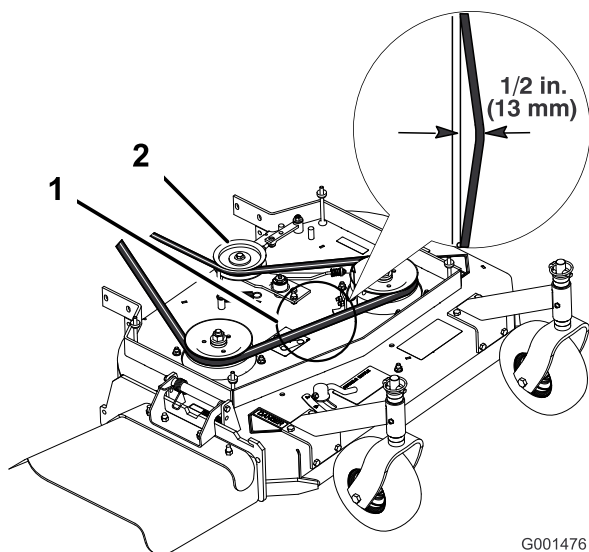
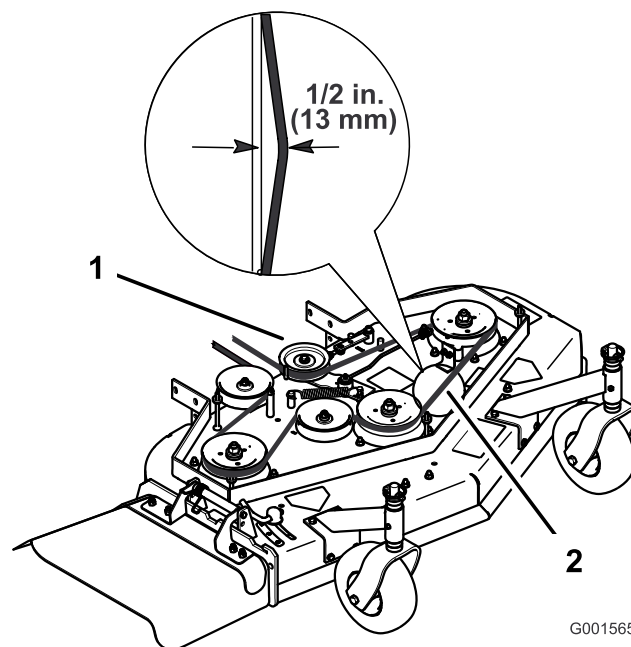

Figure 52
Figure 53
Note: The proper mower belt tension is 10–15 lbf. (44–67 N) with the belt deflected 1/2 inch (13 mm) halfway between the pulleys (Figure 52 or Figure 53).
3. Loosen the locknut on the turnbuckle (Figure 52).
4. Rotate the turnbuckle toward the rear of the mower to increase the tension on the belt. Rotate the turnbuckle toward the front of the mower to decrease the tension on the belt (Figure 52).
Note: The proper mower belt tension is 10-15 lbf. (44-67 N) with the belt deflected 1/2 inch (13 mm) halfway between the pulleys (Figure 52).
Note: The proper mower belt tension is 10-15 lbf. (44-67 N) with the belt deflected 1/2 inch (13 mm) halfway between the pulleys (Figure 53).